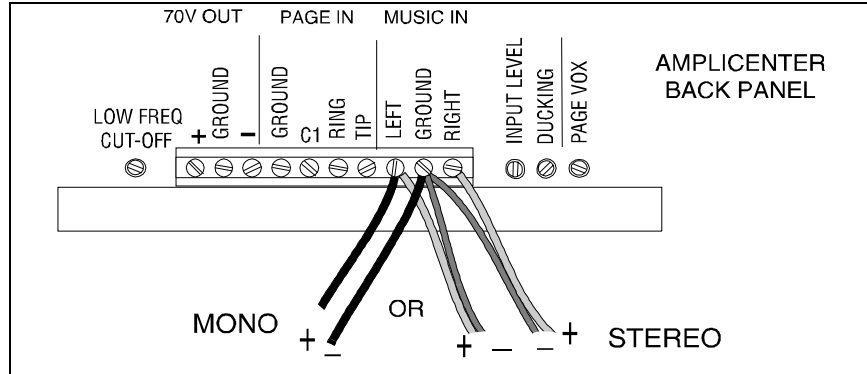

Figure 3. Music Input Connections on AmpliCenter
2. Connect music input wires to Left, Right, and Ground terminals, if stereo, or Left and Ground, if not (see Figure 3).